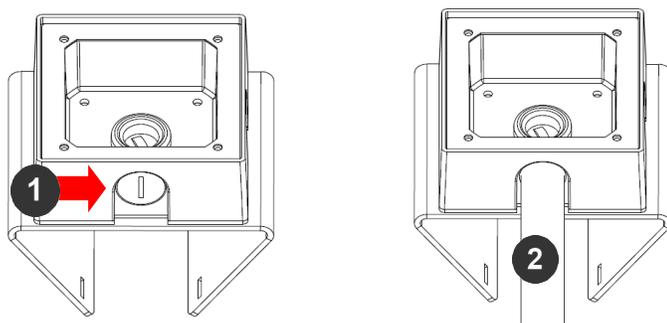

Figure 15: Attach conduit to AV-JBA junction box adapter
3. Attach the AV-JBA (Junction Box Adapter) to the Pole Mount Adapter (Figure 15).
4. Remove the conduit plug on the junction box adapter and connect $\frac{3}{4}$ " NPT conduit to the junction box adapter (Figure 15).